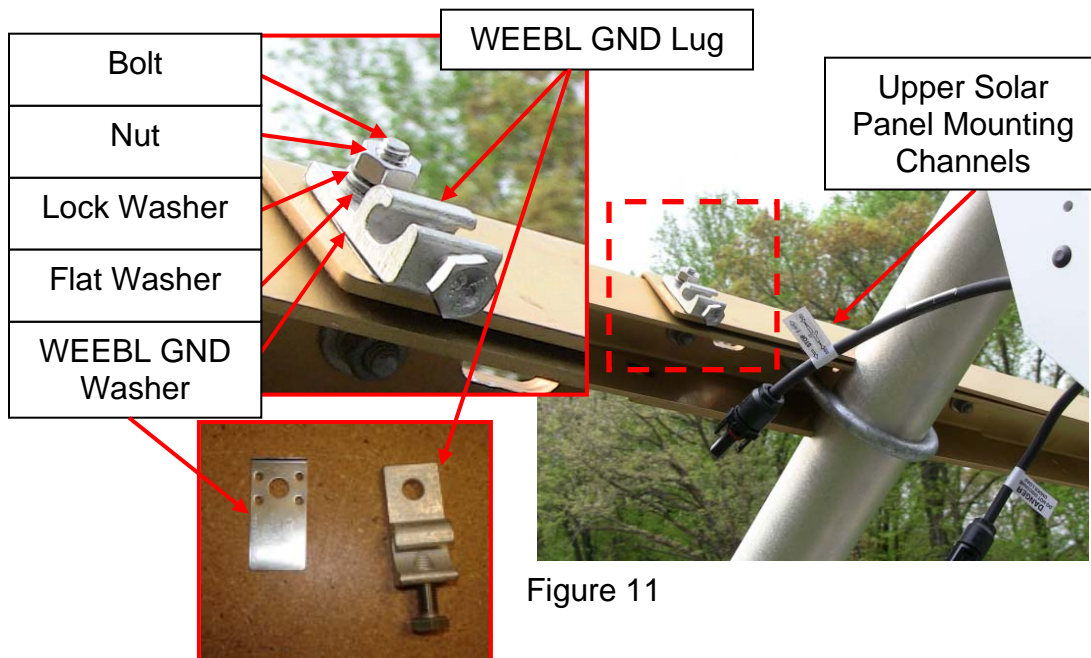

Figure 11
2. Install the WEEBL 6.7 Ground Lug to the Upper Solar Panel Mounting Channels as shown in Figure 11. Tighten the nut to 10 ft-lb/13.5N-m.